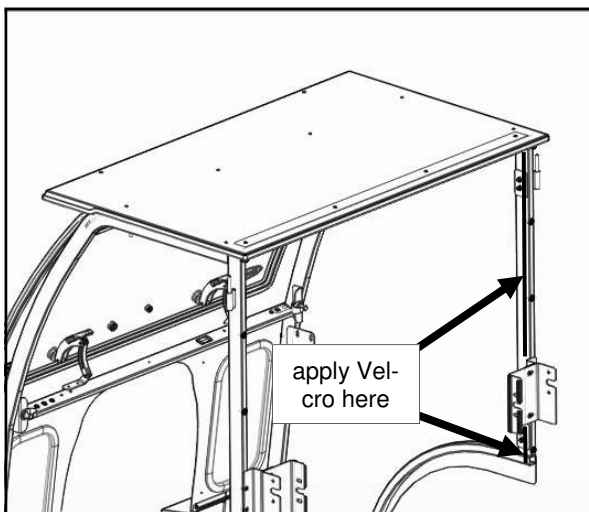

Fig. 12.2 (rear curtain - right side of cab)
**12.2** Using the supplied Velcro, secure the sides of the rear curtain to the side frames, respectively. See Fig. 12.2 and 12.2a.